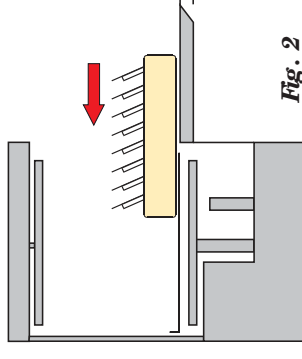

Fig. 2
4. Insert the full rack of dishes for washing, making sure the plates are correctly placed in the rack (Fig.2).